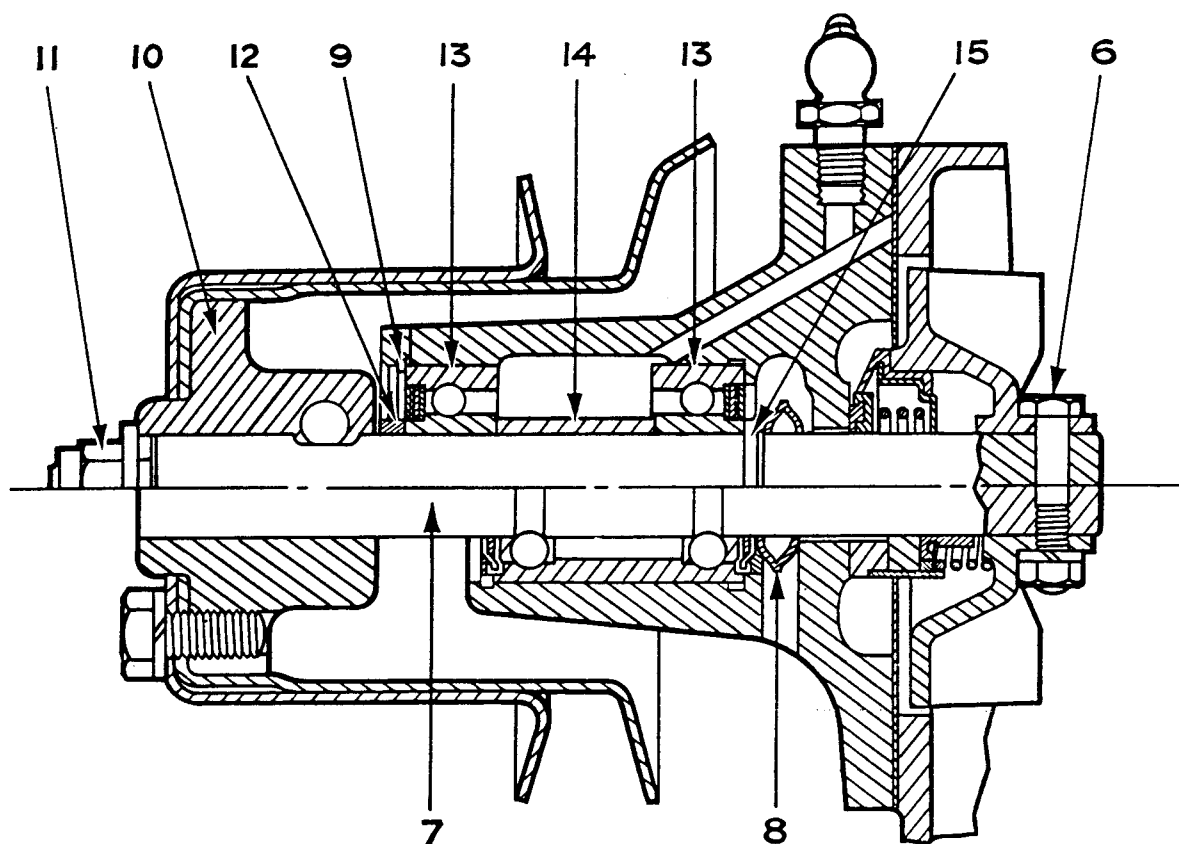
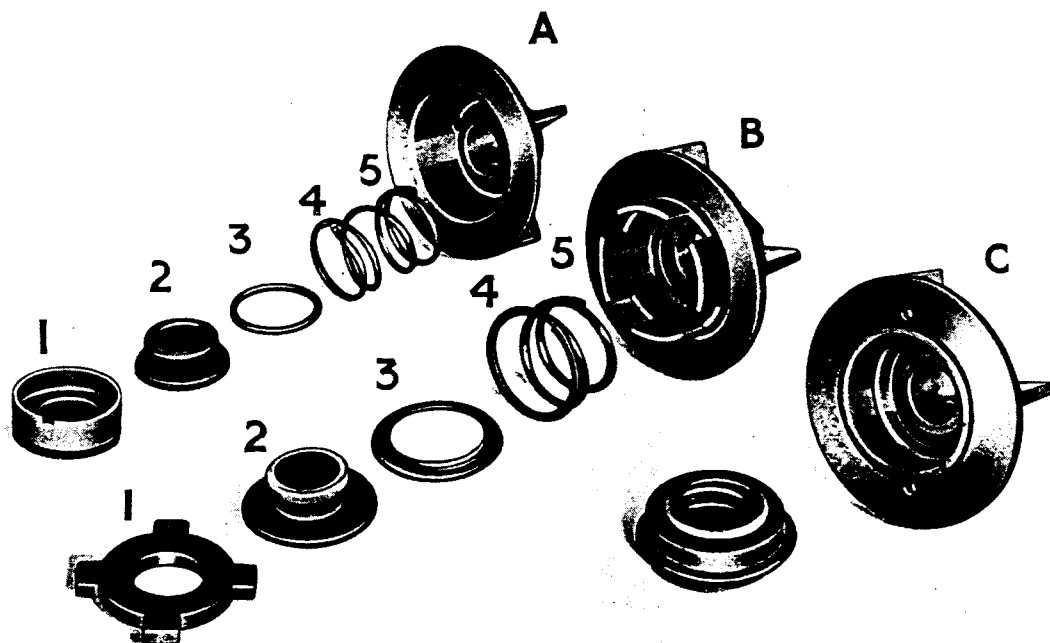

FIG. 7
FIG. 8
### BEARING AND IMPELLOR ASSEMBLY. Fig. 7.
A cross-sectional view of the assembly fitted to Tractors TE-A20 is shown in Fig. 7 from which a comparison can be made between earlier and later types as illustrated respectively below and above the drawing centre line. Fig. 8 shows three seal and impellor sub-assemblies which may be encountered during dismantling. Sub-assembly B is fitted to TE-20 pumps but impellors of certain TE-A20 pumps have been modified to take type B.
After removal of bearing housing assembly, proceed as follows, with reference to Fig. 7 :—
1. Remove small bolt (6) securing impellor on shaft and prise or twist off impellor levering behind vanes.
2. Remove seal assembly—See Fig. 8.
3. TE-A20—Remove pinch bolt from pulley hub clamp and tap out shaft to detach hub (10). On later type bearing assemblies, a self locking nut (11) must be removed from shaft end before withdrawal of clamp.
4. Tap out bearing and shaft assembly (7) with water thrower, (8) after removal of vent plug or circlip (9). The plug is
4. Replace seal and impellor assembly—See Fig. 8.